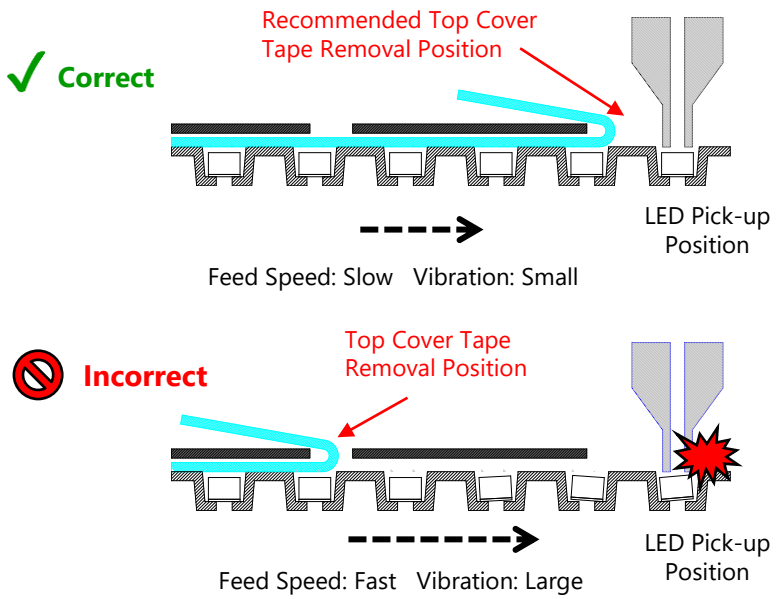

Figure 14. Recommended/Not Recommended Top Cover Tape Removal Positions
3. It is recommended to remove the top cover tape at the recommended position shown in Figure 14 (i.e. immediately before LED pick-up).